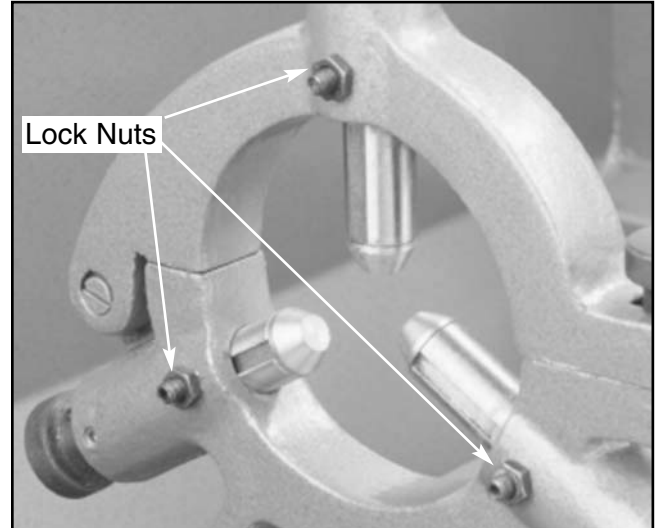

Figure 27. Steady rest lock nuts.
1. Loosen the lock nuts. **See Figure 27.**